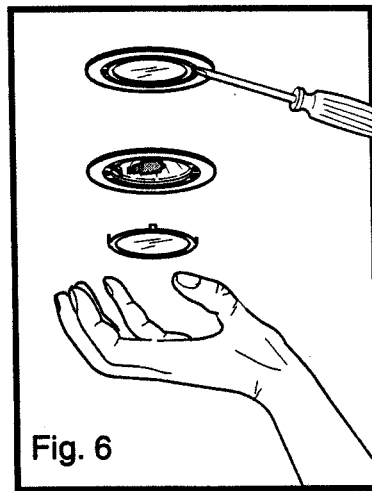

Fig. 6
**Replace Lights For Model HDW (Fig. 6)**